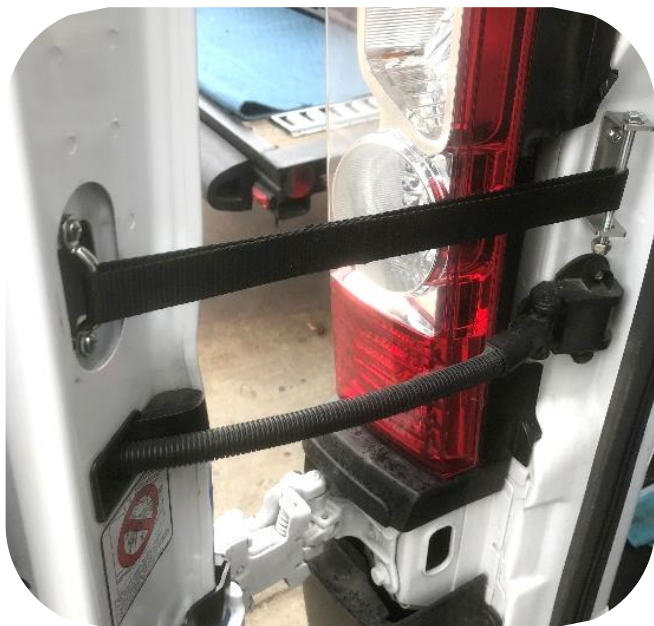

Figure 21: Installed Door Stop
33. Door strap should now look like Figure 21.